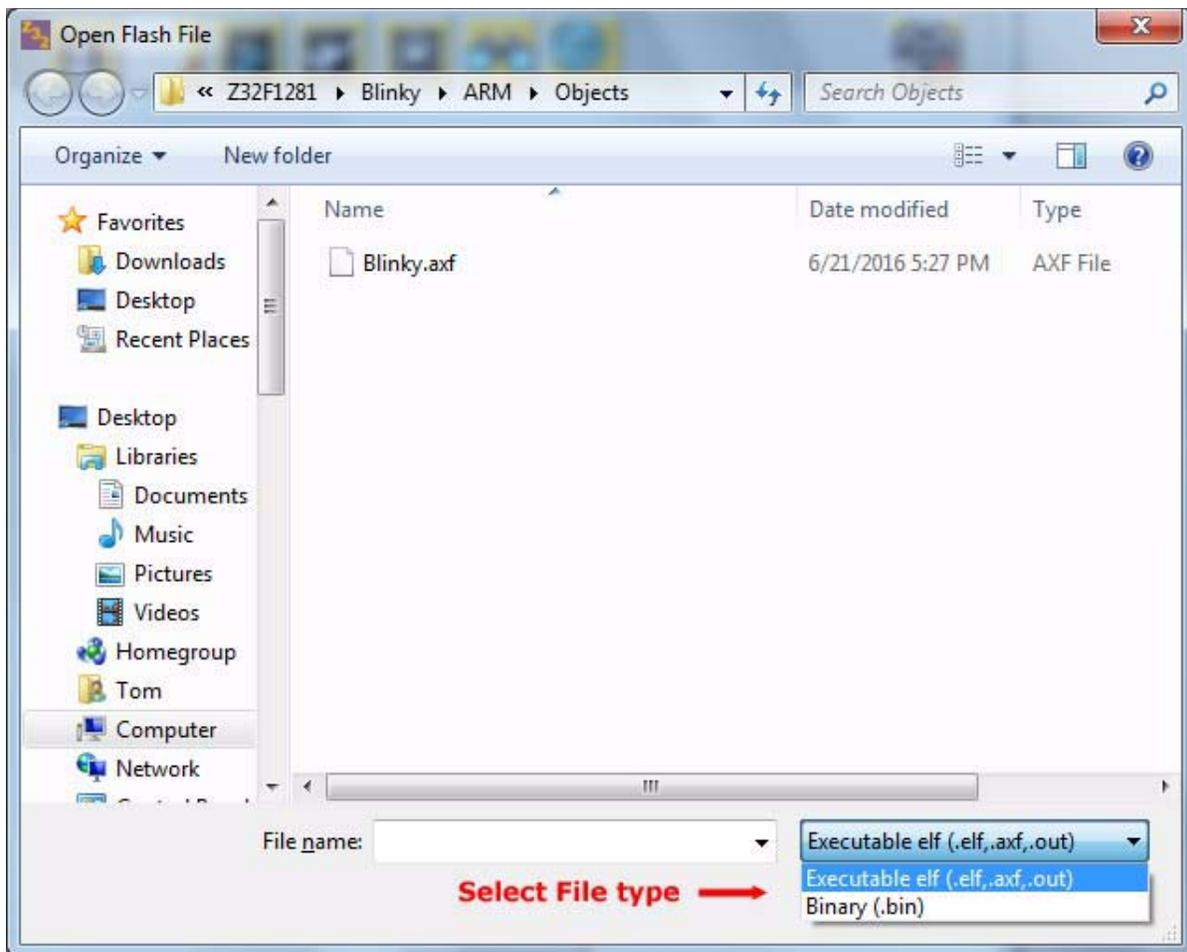

Figure 16. Open File Dialog
2. The **Open File** dialog, shown in Figure 16, appears. Select the file type (typically, a .bin file) and select the file to be loaded.